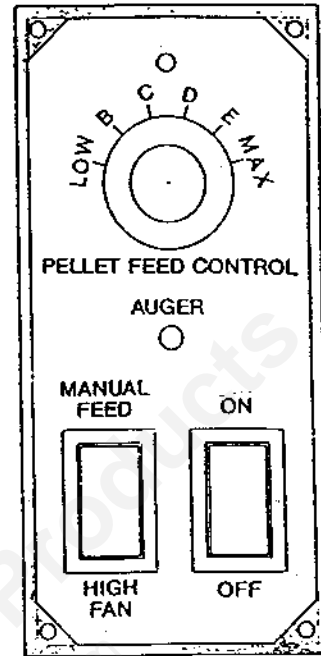

FIGURE 10
- Fill burn pot by hand or by pressing "MANUAL FEED" switch on control panel, (See Figure 10) to level just below top air holes. Add approved fire starter (see 3.92)), light and close door. Keep door tightly closed during operation.